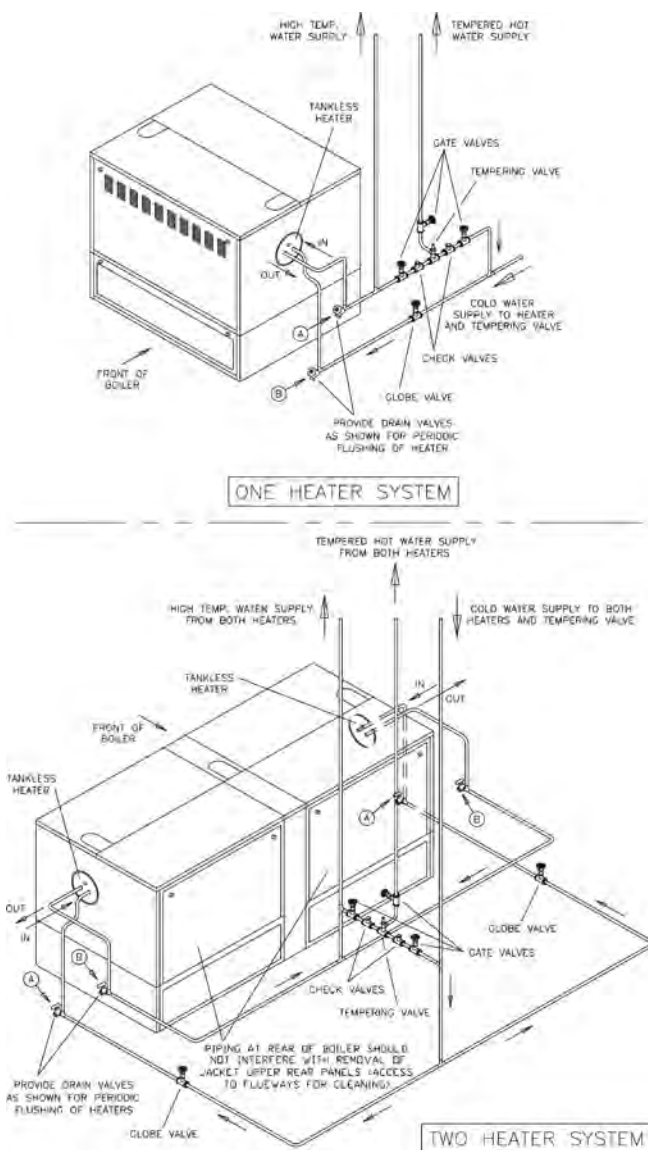

FIG. 27
35. CONNECT PIPING TO BUILT-IN HEATER(S) IF USED, see Fig. 27.